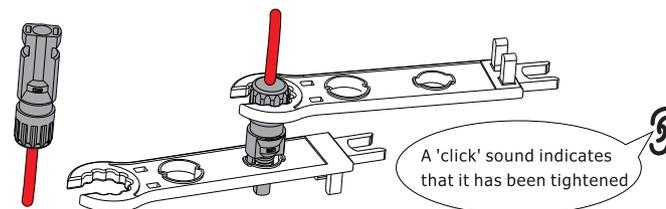

Figure 4.1-3 Connector with cap nut screwed on
**Setp3.** Insert the contact pin to the top part of the connector and completely tighten the cap nut to the top part of the connector,as shown in Figure 4.1-3.